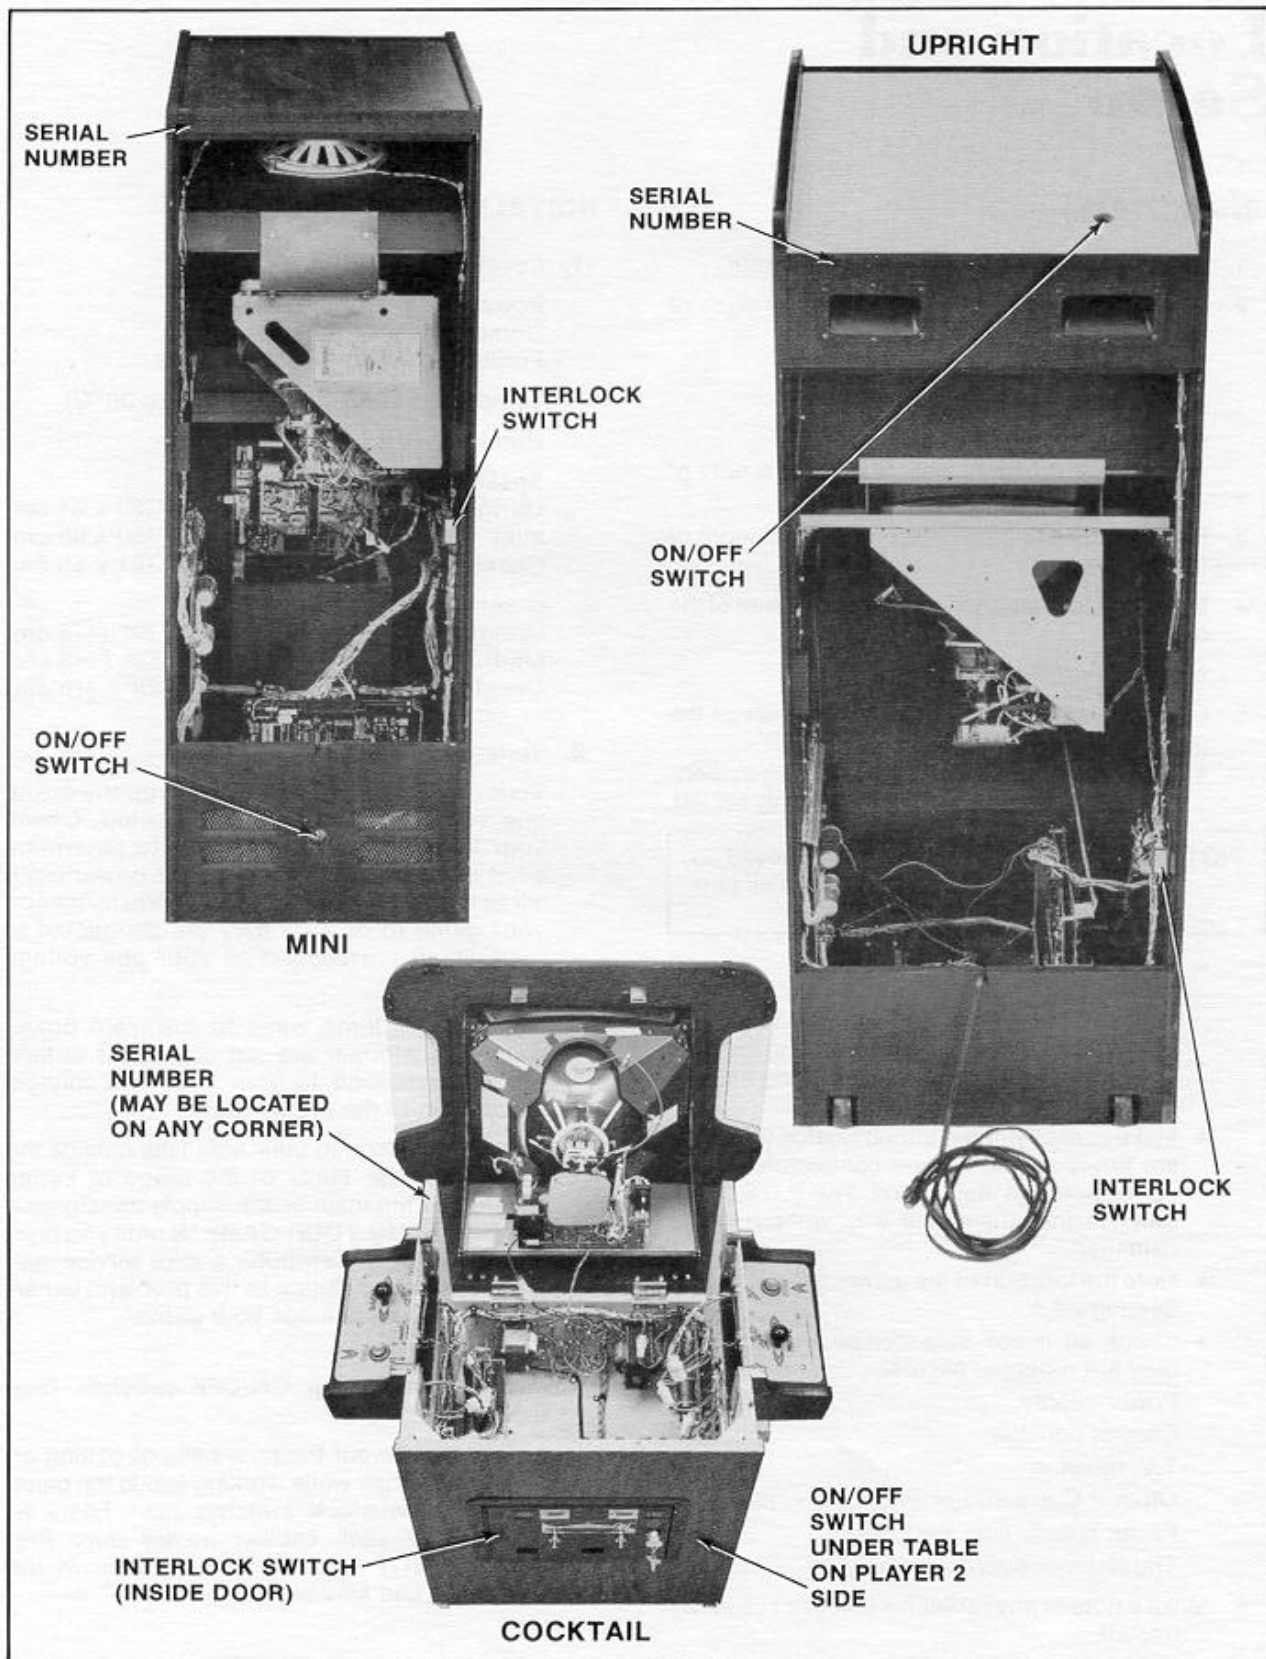

Figure 1. Location of serial number, interlock switch and ON/OFF switch.
- Note the location of the games serial number. See Figure 1.
3. Interlock and power ON/OFF switches. (See Figure 1.
The game ON/OFF switches for all models are located as shown in Figure 1. Turn the game on and allow it to warm up a few minutes.